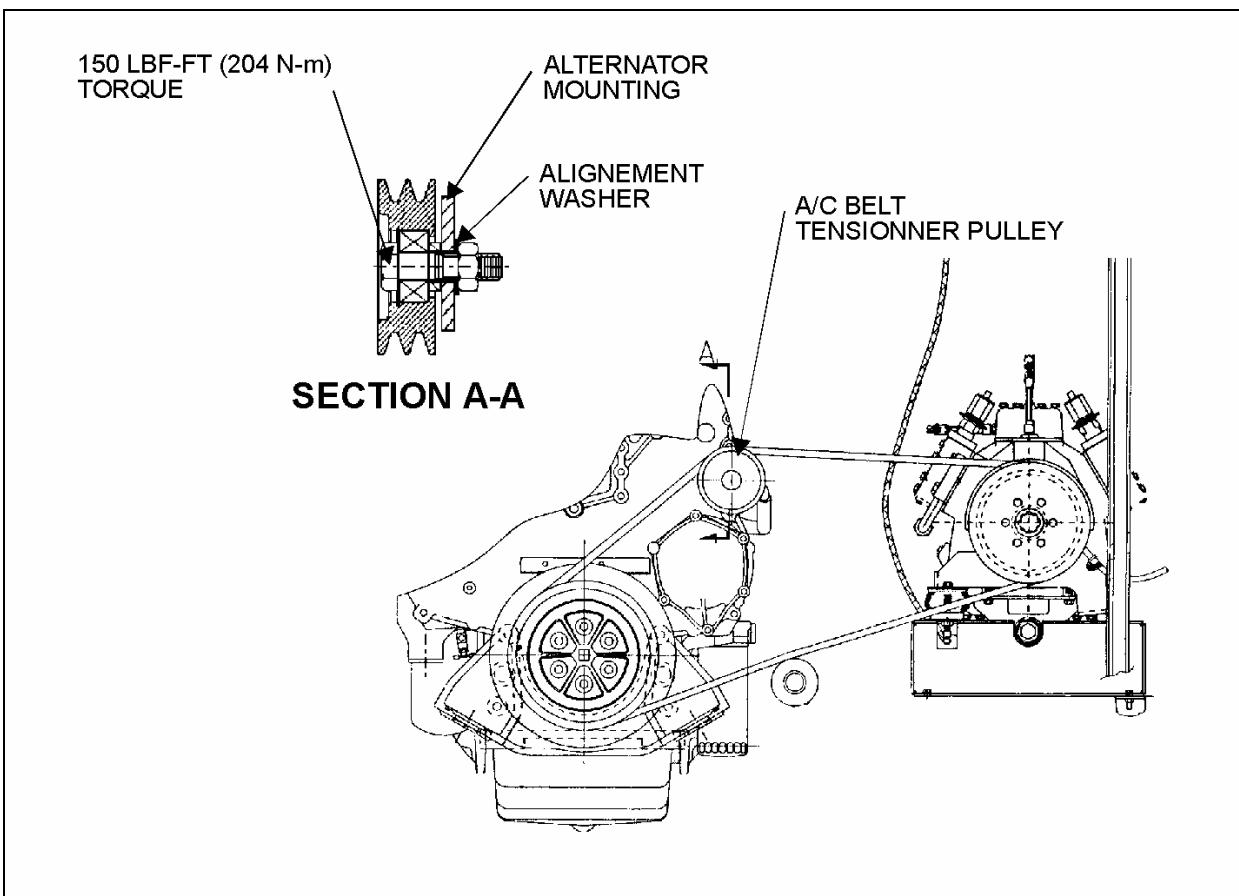

FIGURE 2: ENGINE AND COMPRESSOR
3. Remove nut from belt tensioner pulley bolt (Fig. 2).
4. If applicable, remove old alignment washer (Fig. 2).
5. Install a new alignment washer (Prevost number 452276) (Fig. 2).
6. Install nut and torque belt tensioner pulley bolt to 150 lbf-ft (204 N-m) (Fig. 2).